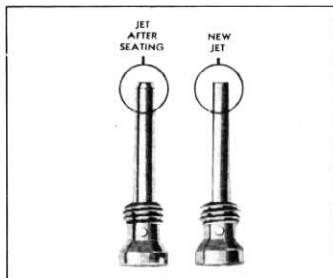

Fig. 88—Checking Seat on Low Speed Jet
3. Install nozzle screw plug (3) and tighten it securely. Tighten the three air horn screws and then install main nozzle passage plug (1) using a new copper gasket (2) and tighten securely.
4. Install the low speed jet (13) and gasket (12) in carburetor body and tighten securely. Remove jet and check bearing at end. If there is a complete bearing around the end of the jet as indicated in Figure 88 reinstall jet. If bearing is not complete, install a new jet.